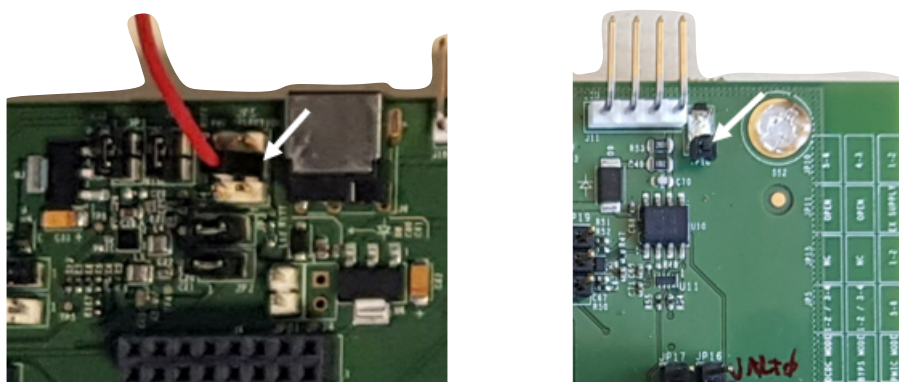

Figure 18. JP5-3, GND TP18
4. Connect TP18 (GND) to the power source, see Figure 18.
5. Connect the Keysight CX3322A power analyzer and CX1101A current probe to JP5-3 and to the power source, see Figure 18.